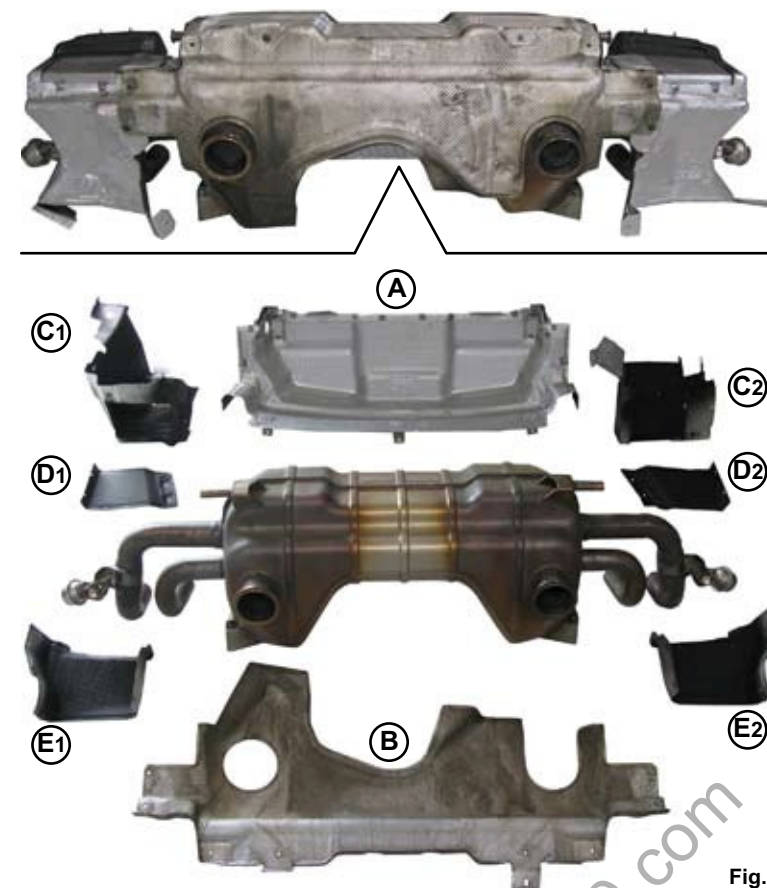

Fig.1
- Rear centre panel (**A-Fig.1**)
- Front centre panel (**B-Fig.1**)
- Side panels (**C-Fig.1**)
- Side panels (**D-Fig.1**)
- Side panels (**E-Fig.1**)